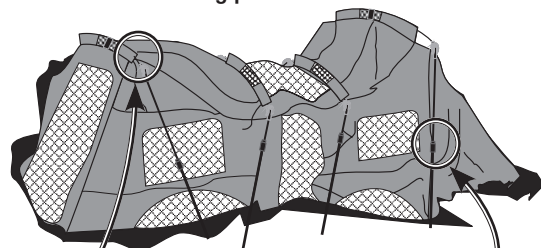

Fig. 5
- Unfold arm joints located at each of the tent top corners (x8). (Fig. 5 and 6)
- Extend each of the telescoping leg poles until they lock into place (locking button engaged). (Fig. 5 and 7)